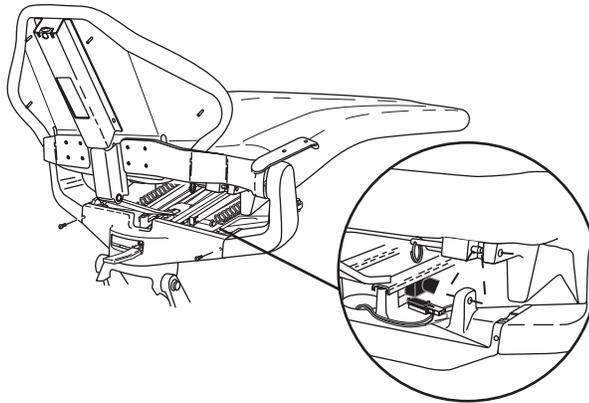

Figure 12. Replacing Seat Upholstery
4. Align the new upholstery to the holes in the chair casting (*see Figure 12*).
5. Insert the pins through the upholstery and chair casting (*see Figure 12*).